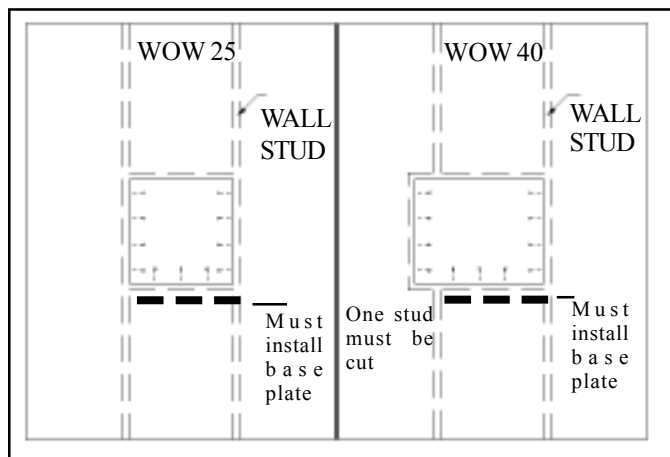

FIGURE 12
- F.) From inside the room, slide outer cabinet through cut out opening until flanges are flush against inside wall. (See Figure 12).
- G.) Secure in place through side of cabinet into stud. WOW253/254 will be secured into studs on both sides. WOW403/404 must be secured to stud on one side, can be left or right side. (See Figure 12).
- F.) From inside the room, slide outer cabinet through cut out opening until side and bottom flanges are flush against inside wall. (See Figure 12). This leaves a 1/16" gap between the wall and cabinet top flange. This gap is necessary to install the front panel.